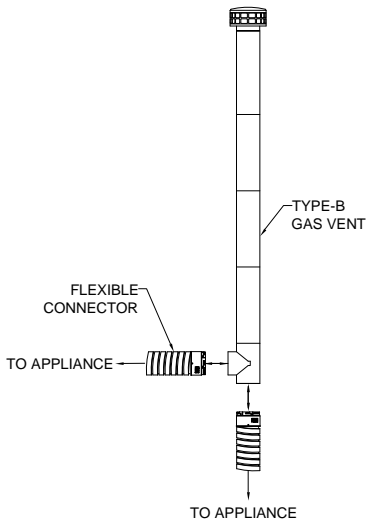

FIG. 3
- c. Inlet end of Type-B gas vent Tee or "Y" (See **FIG. 3**)